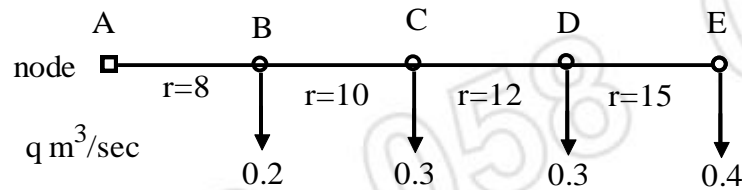

Fig. 1
5. A serial network as shown in fig. 1 has a source node A with a constant HGL value of 100.0 m and four demand nodes B, C and D and E with the minimum HGL values 92.0 m, 90.0 m, 91.0 m and 87.0 m respectively. The pipe resistance constant in head loss formula  $h_f = rQ^{1.85}$  ( $h_f$  is in 'm' and Q is in m3/sec) are given along the pipes. The nodal discharge in m3/sec are given near the arrow heads carryout node flow analysis of the network. **13**